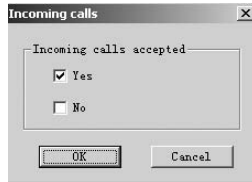

Fig.5.8-2
2) The prompt frame is shown in Fig. 5.8-2.